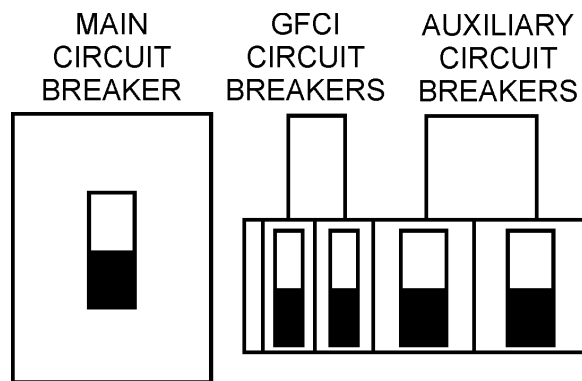

Figure 53. Main, AUX. and GFCI Circuit Breakers (OFF)
1. Switch the **MAIN**, **AUX** and **GFCI** circuit breakers (Figure 53) to the “**OFF**” position (no load).